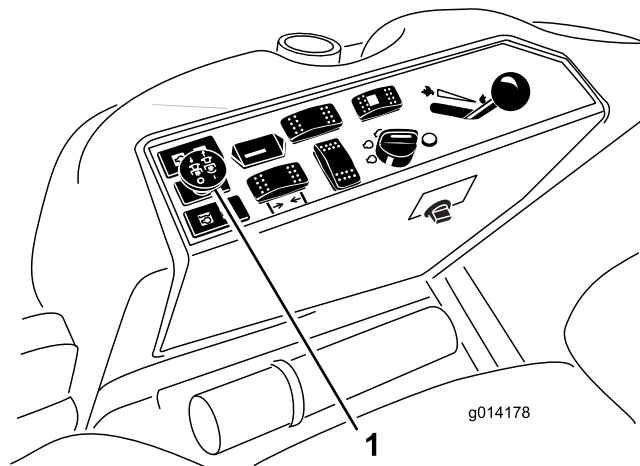

Figure 14
3. Pull up on the PTO switch to engage it (Figure 14).